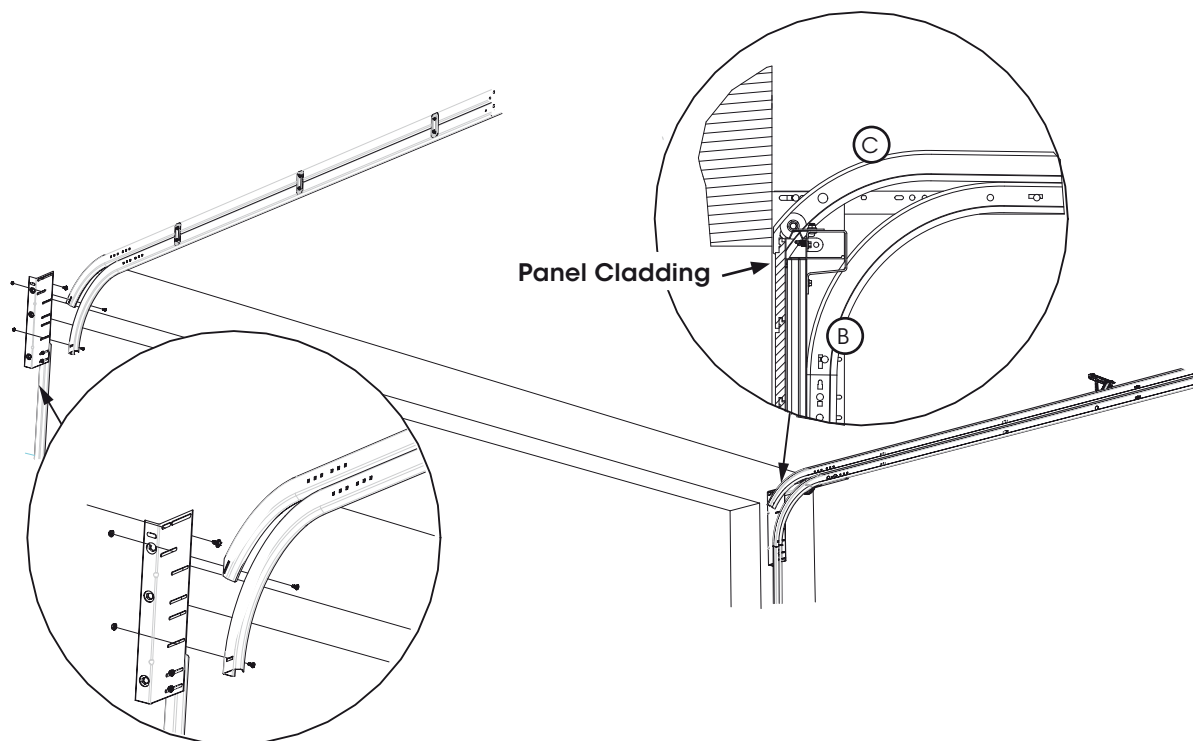

Fig: 5.1.2
Cut vertical tracks to match dimensions for low headroom or BTRK as shown in 1.4.2 initial calculations on page 6. Assemble the track as shown in Figure 5.1.2. The curve © must align and butt up against the vertical track (B) snugly and the top curve track needs to be close to the lintel.